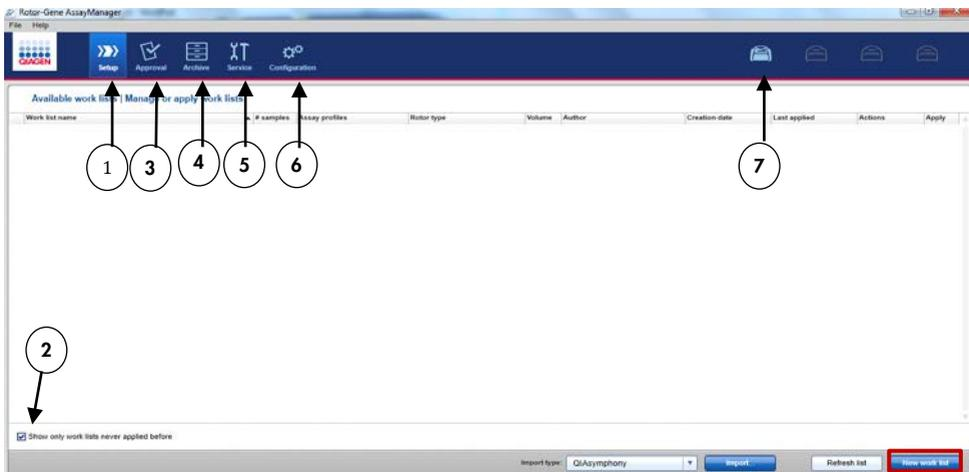

Figure 7. Description of the different tabs present in the RGAM software.
14. Log in as a user with the “Operator” role in the closed mode. Click “OK”. The Rotor-Gene AssayManager screen opens (Figure 7, next page).
17. Click “New work list” (Figure 7).